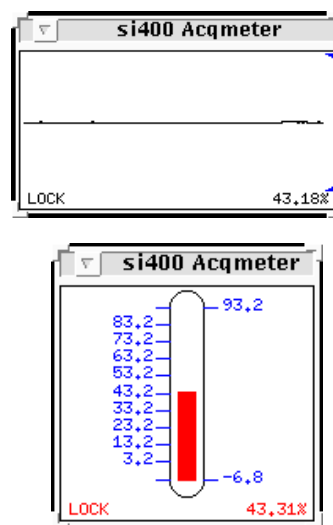

Figure 35. Acqmeter Lock Displays (acqmeter Program)
- To view the lock level with the Acqmeter window, enter `acqmeter` in the input window or `acqmeter` in a UNIX shell. A window appears (shown in Figure 35) that begins showing the lock level. Clicking with the right mouse button inside the window opens a popup menu that allows you to display VT and spin information or open a properties window that allows you to alter the display (also in Figure 35).